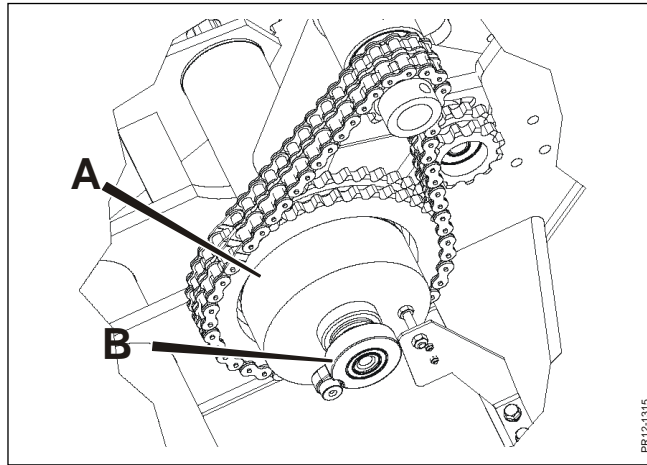

Fig. 5-5
- Fig. 5-5** To safeguard against faulty operation following metal detection and ensure that any metal has been removed before restarting, the electronics do not permit a normal feed intake function until the feed intake has reversed briefly. The magnetically operated switch **B** is operated through clutch **A** during the reversing. This sends a signal to the microprocessor that reversing has been completed and the stop system with the pawl will be reset.